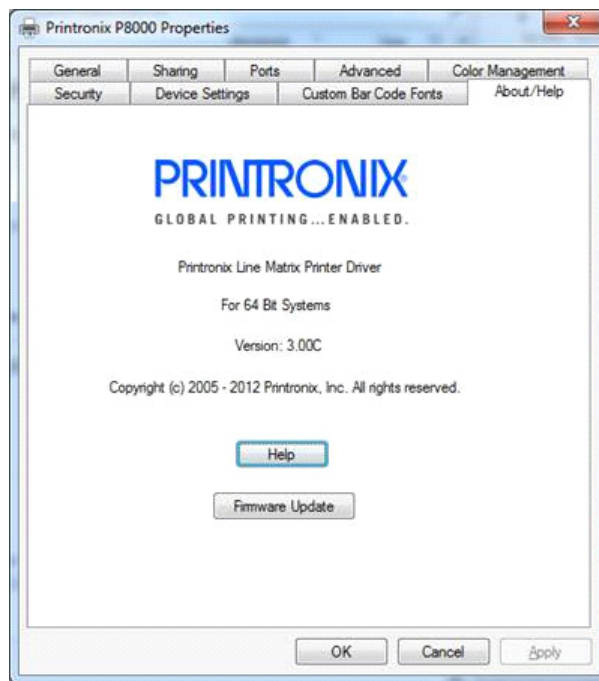

Figure 32. Updating Firmware
5. Click the **Firmware Update** button as in Figure 32.